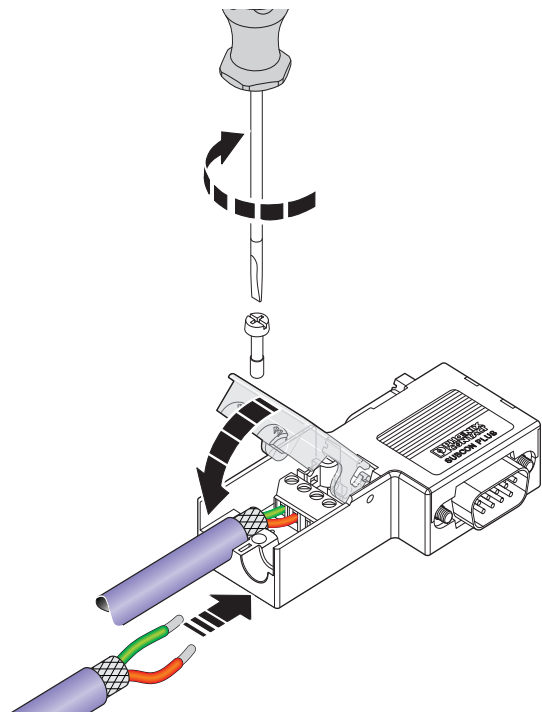

Figure 22 Connection
- The outgoing bus line is always connected to terminal connections 2A/ 2B (see Figure 22). The color of the connecting terminal blocks labeling must then be observed.